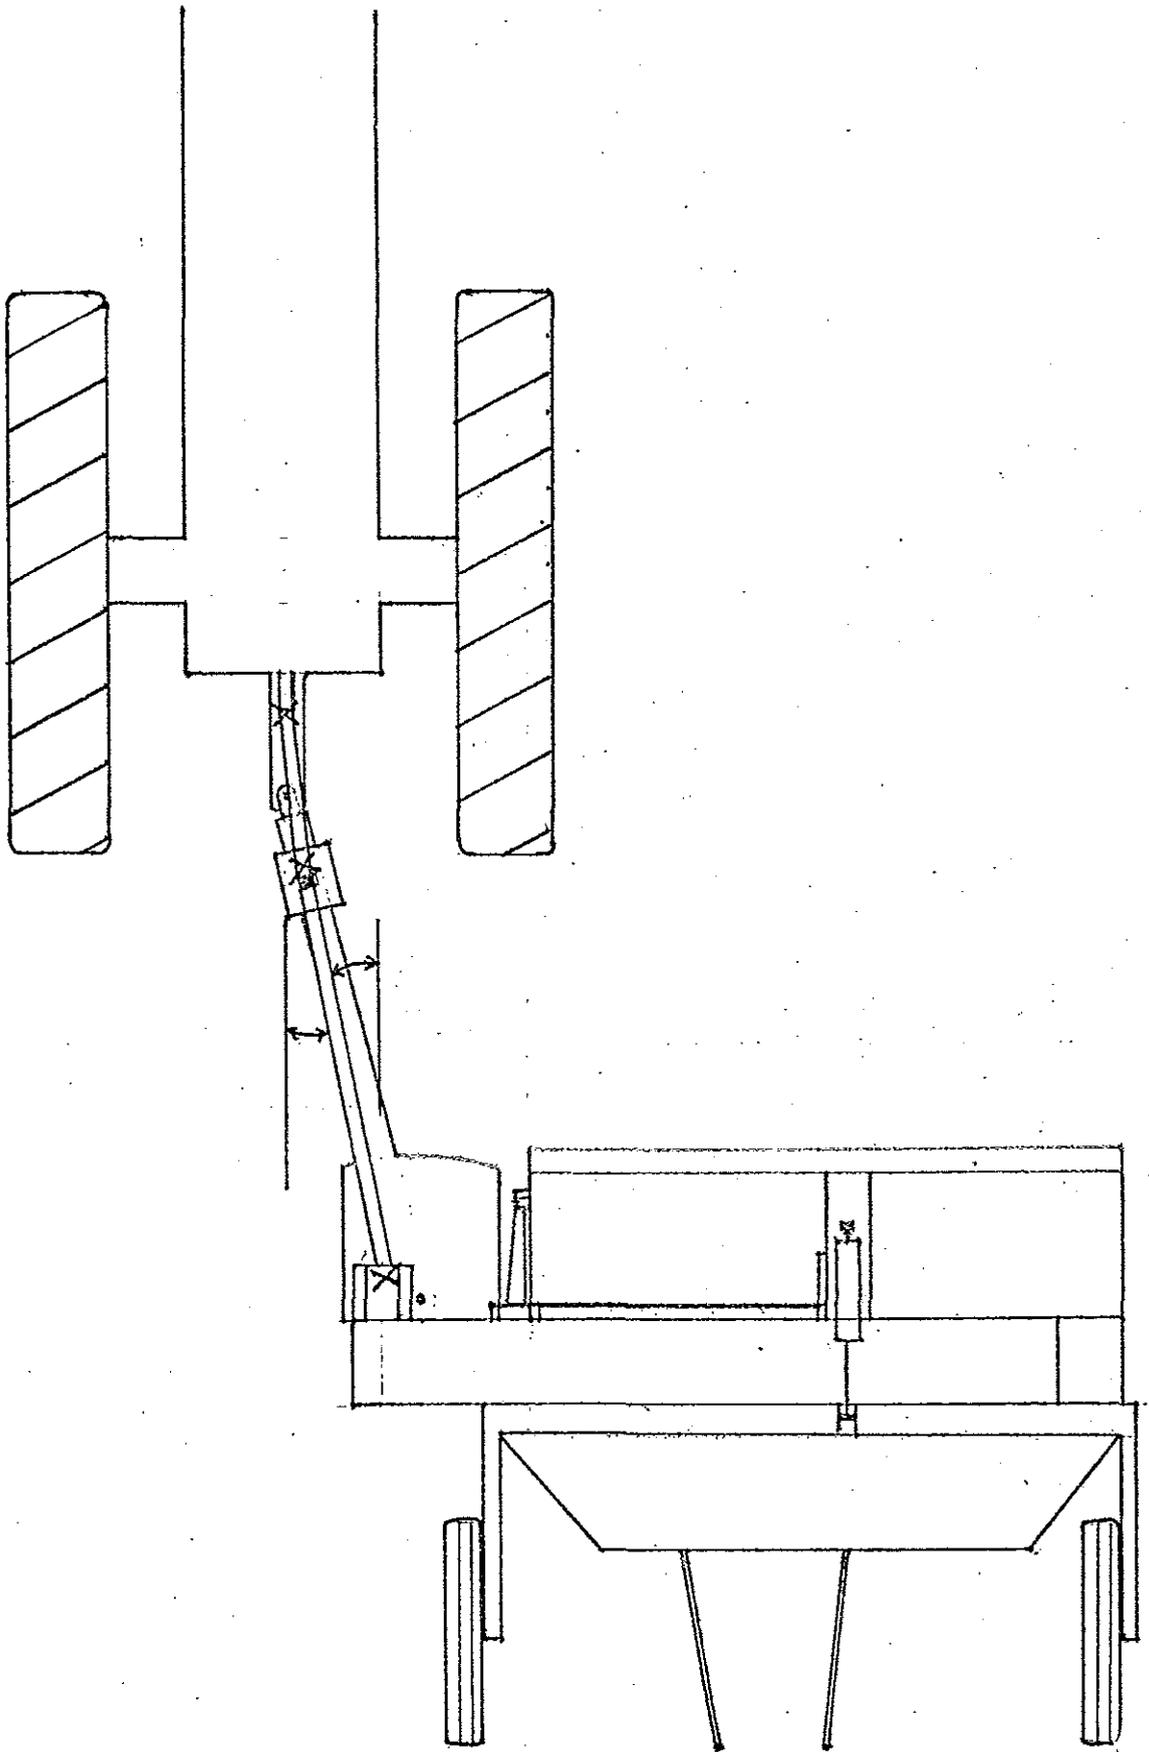

FIGURE 5
- Locate tongue in appropriate field work position. (See Fig. 5).
To allow the torsion bar to function correctly during normal operation, the spring loaded latch must be in the disengaged position (Figure 5).